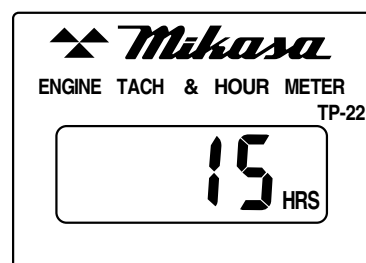

**Figure 14. Choke Lever (Closed)**
3. Place the choke lever (Figure 14) in the "CLOSED" position if starting a cold engine.